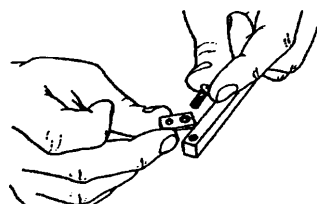

Fig. 2
3. Attach the pivot plate to the end of the long arm (8) with a button head screw (7). Finger tighten. See Fig. 2.